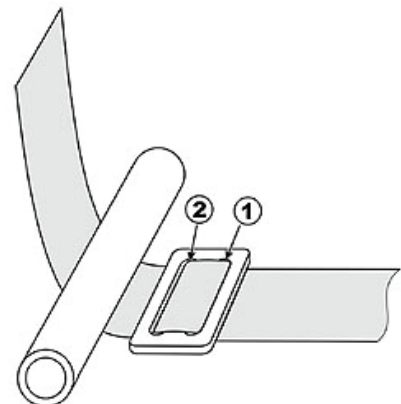

Figure 1
1. slide the webbing through slot 1 and 2 as shown in Figure 1 (At Right)